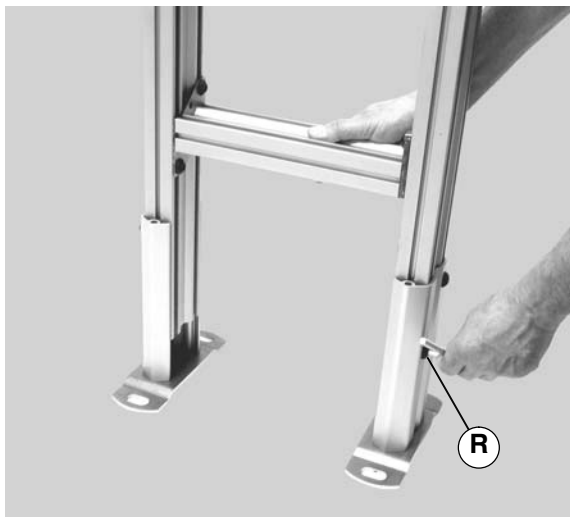

Figure 15
1. Loosen stand boot screws (R of Figure 15).
WARNING Failure to secure screws (R of Figure 15) may cause conveyor sections to drop down causing severe injury. TIGHTEN SCREWS (R) AFTER ADJUSTMENT.
4. Tighten stand boot screws (R of Figure 15) to 150 in-lb (17 N-m).